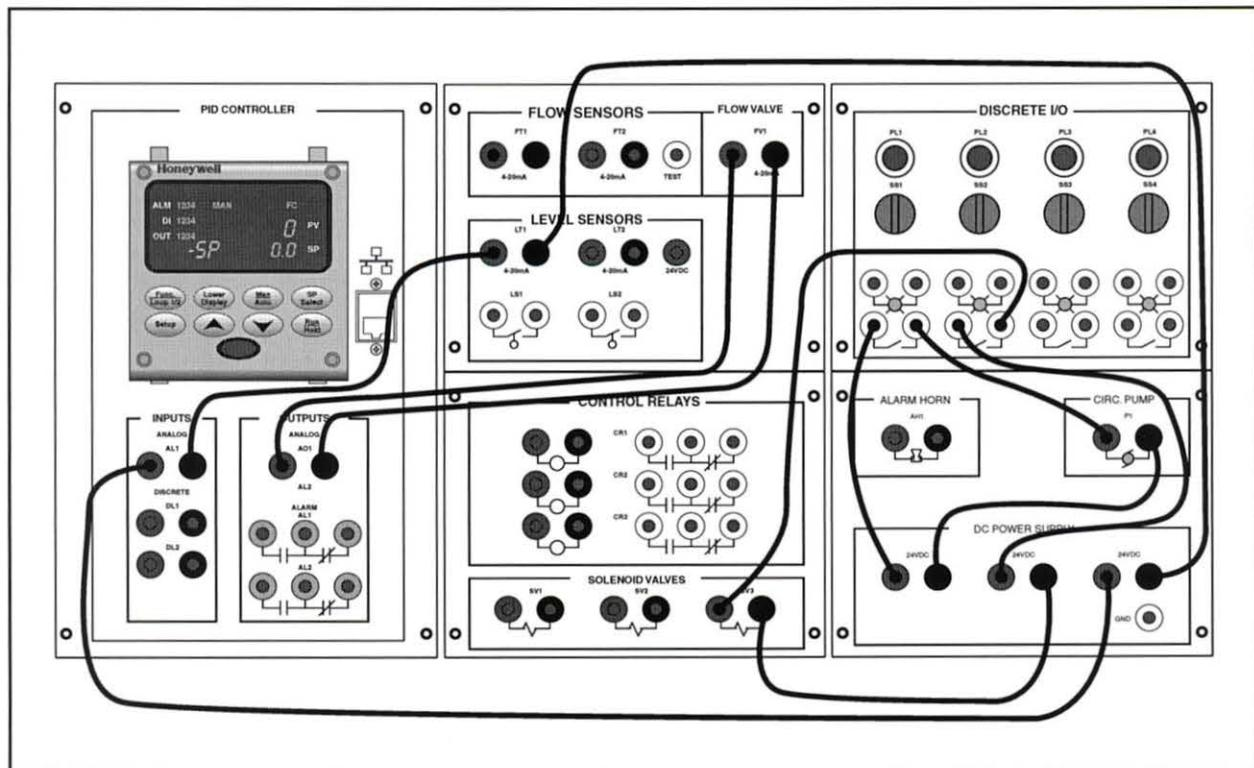

Figure 35. Connections for Closed Loop Level Control
E. Connect the circuit shown in figure 35.